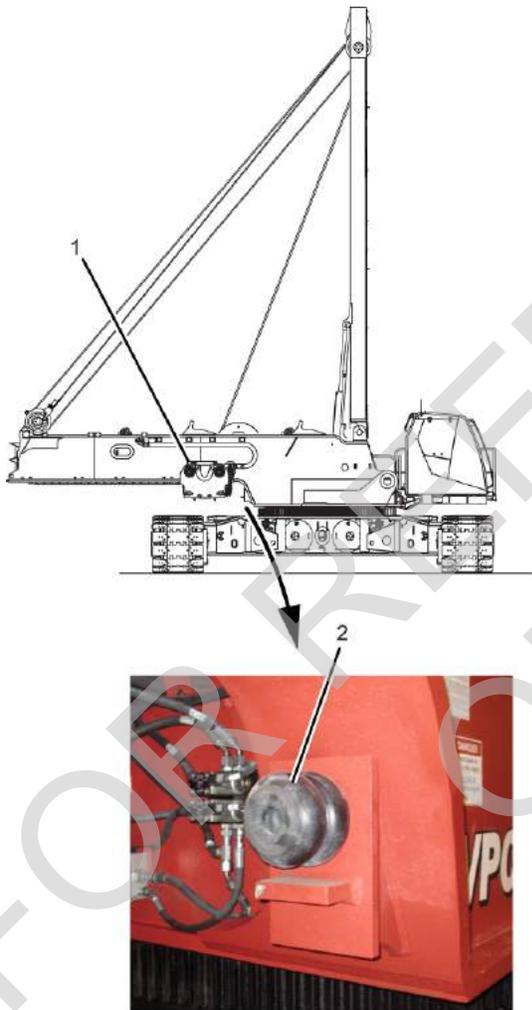

Figure 4-78
If the VPC trolley is not being removed for shipping, use the remote control to travel the VPC trolley (1, Figure 4-78) all the way forward until it is against the rubber bumper (2) on both sides of the rotating bed.